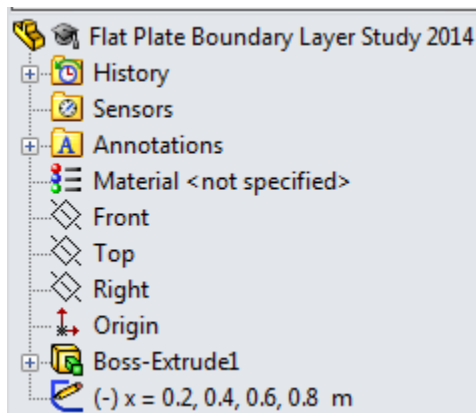

Figure 2.8 Renaming the sketch for boundary layer velocity profiles
- Repeat step 7 three more times and add three more vertical lines to the sketch, the second line at $X = 400$ mm with a length of 40 mm, the third line at $X = 600$ mm with a length of 60 mm and the fourth line at $X = 800$ mm with a length of 80 mm. These lines will be used to plot the boundary layer velocity profiles at different streamwise positions along the flat plate. Close the **Line Properties** dialog  and the **Insert Line** dialog. Save the SolidWorks part with the following name: **Flat Plate Boundary Layer Study 2014**. Rename the newly created sketch in the **FeatureManager design tree**, see figure 2.8. Click on the **Rebuild** symbol  in the SolidWorks menu.